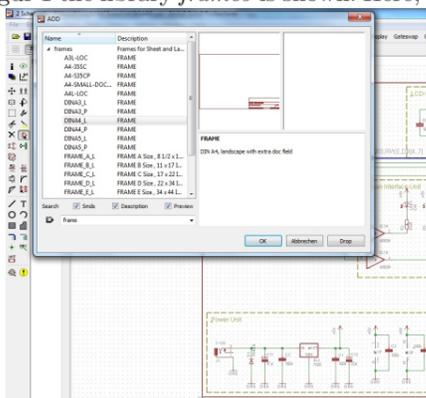

Figure 1: Selecting proposed frame for placing in schematic drawing at origin position
**Schematic Drawing.** If a new schematic design is started or is still available, a provided frame **without** alphanumeric frame instances have to be selected. In Figure 1 the library *frames* is shown. Here, the frame family *DINAx.y* is the best choice.